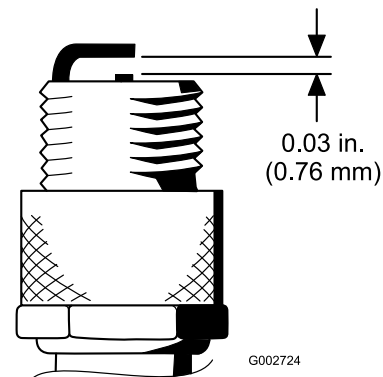

Figure 46
4. Set the air gap between the center and side of the electrodes at 0.030 inch (0.76 mm) (Figure 46).